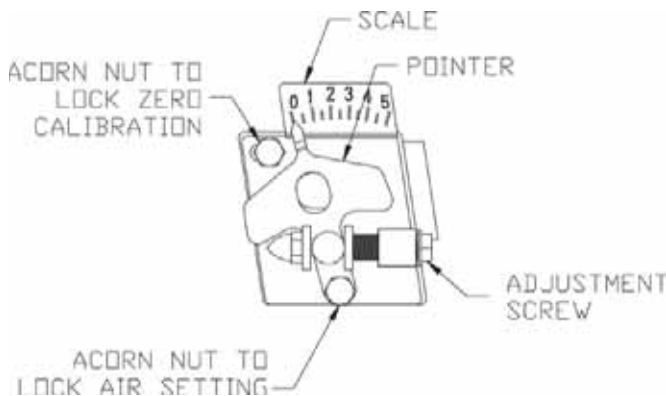

Figure 45: Head/Air Adjustment Plate Assembly
14. Loosening the splined nut and lower acorn nut, and, turning the adjustment screw, either forward or, rearwards, will adjust the head/air plate. **DO NOT LOOSEN UPPER LEFT ACORN NUT**, which locks zero head/air setting. See Figure 45.
2. The plate setting number has been factory preset to obtain an initial CO₂ range of 11.0 – 11.5 % at burner start-up. Adjusting head/air plate forward (the pointer will move towards “0” scale number) reduces excess air and increases % CO₂. Adjusting head/air plate rearwards (the pointer will move towards “5” scale number) increases excess air and reduces % CO₂. See Figure 45.